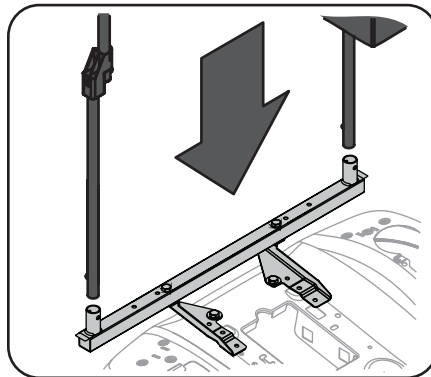

Figure 3-15
1. Slide the upright poles of the sun shade frame into the support mounted on the tractor. See Figure 3-15.